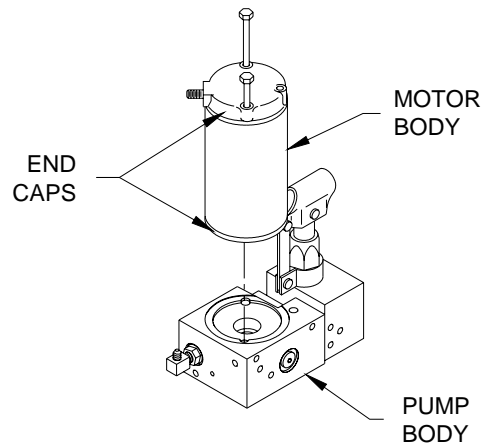

FIGURE 4-22: PUMP MOTOR ORIENTATION
- 3) Refer to **Figure 4-22**. Disconnect heavy electrical connection to pump.
- 2) Refer to **Figure 4-22**. Locate pump motor assembly on pump body (hold motor assembly together).